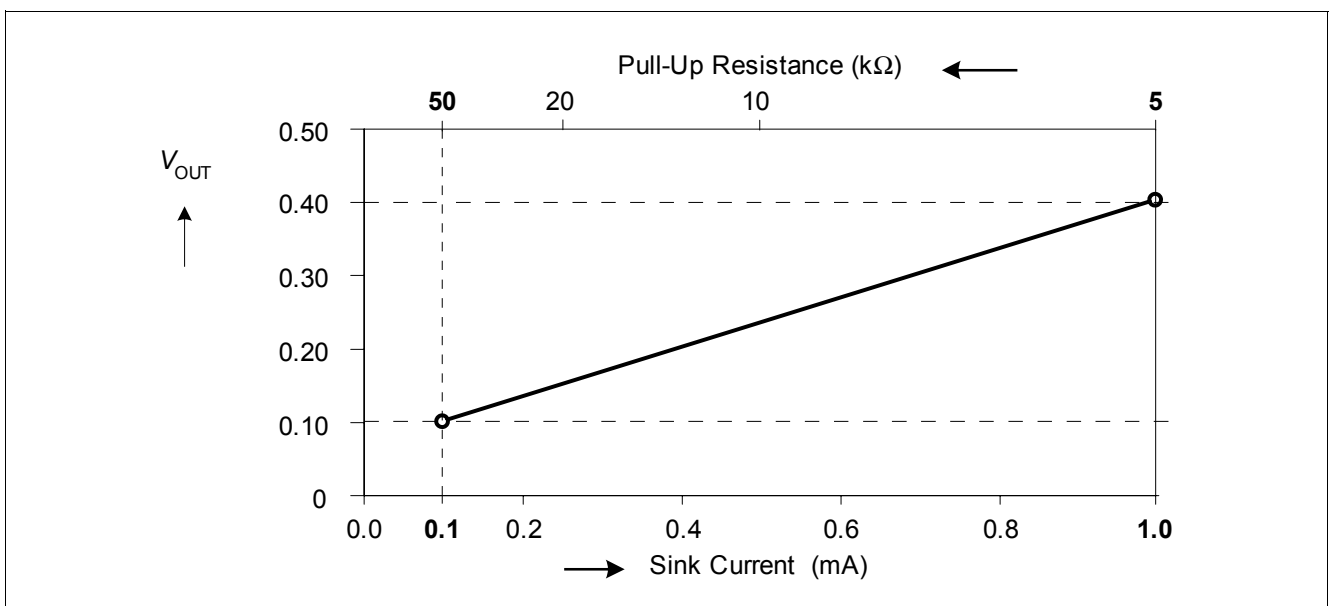

Figure 5 Minimum Output Voltage Limit at Minimum Rated Pressure with Pull-Up Load
2) See: Figure 5 “Minimum Output Voltage Limit at Minimum Rated Pressure with Pull-Up Load” on Page 14